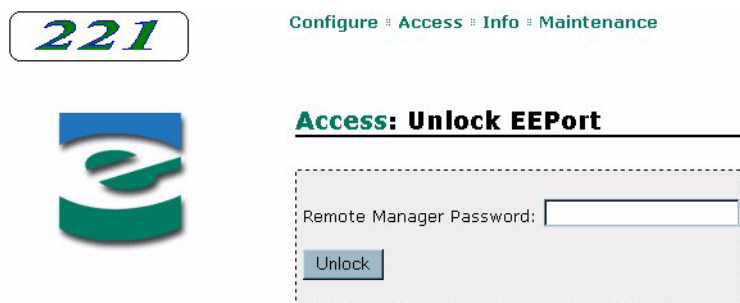

Figure 6-21 Remote management utility – Unlock EEPort page
3. Click on Unlock the entry/exit port door. A page similar to Figure 6-21 appears.